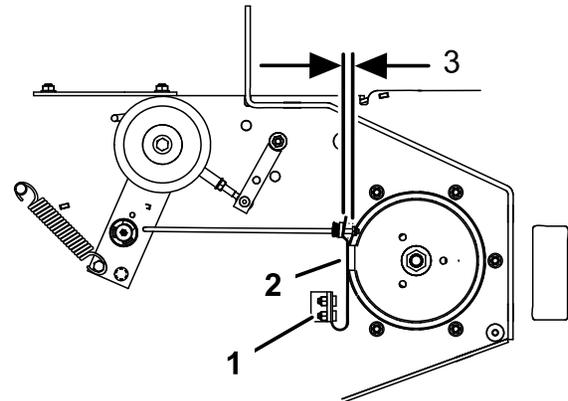

Figure 60
3. If necessary, adjust the spring mounting bolts so that the blade brake pad rubs against both sides of the pulley groove (Figure 60).
4. Adjust the nut at the end of the blade brake rod until there is 3 mm -5 mm (1/8-3/16 inch) between the nut and spacer (Figure 60).